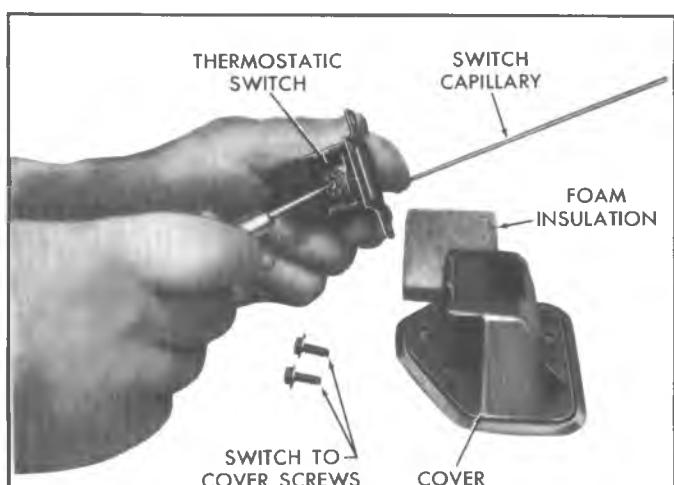

Fig. 53--Thermostatic Switch Adjustment
- If the outlet temperature was less than the prescribed temperature at the end of each cooling cycle, turn the adjusting screw a partial turn counterclockwise (fig. 53). If the outlet temperature was more than prescribed temperature, turn the adjusting screw clockwise.